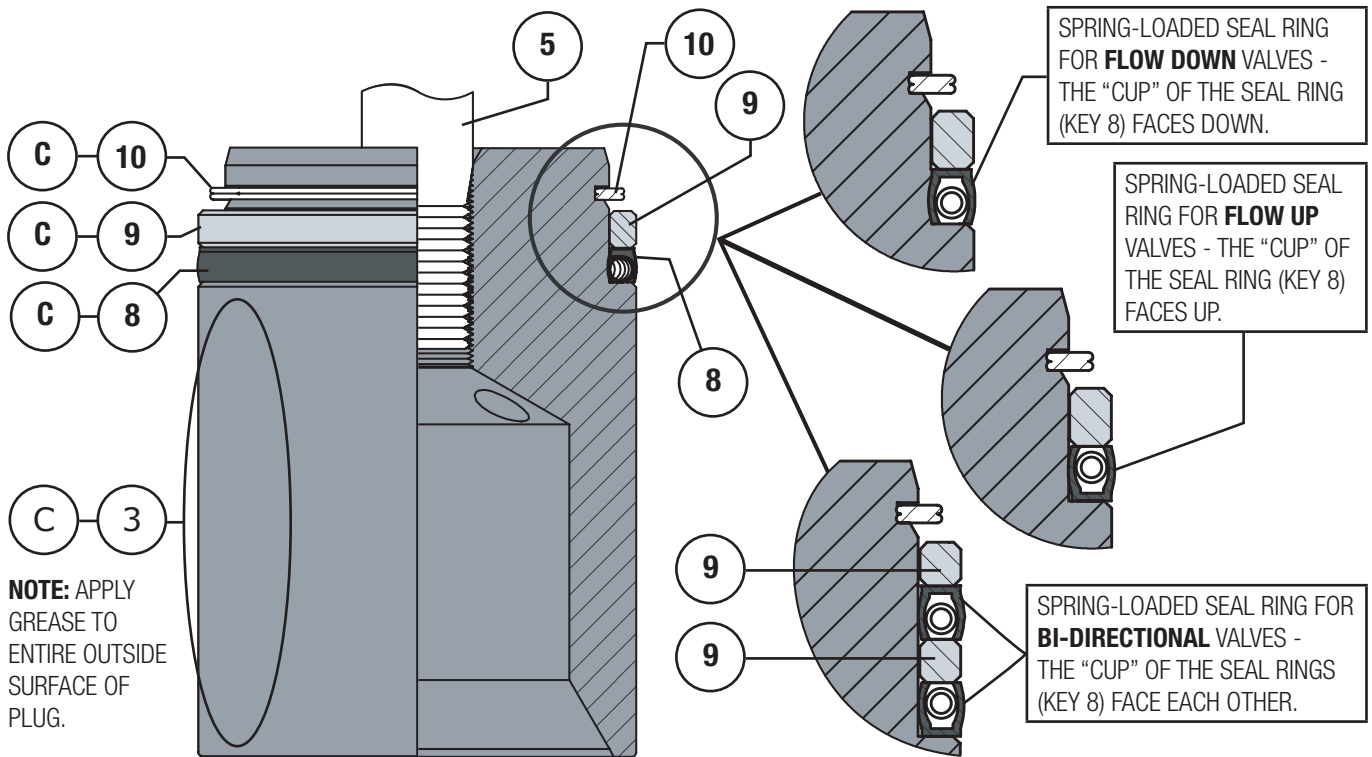

Figure 19 Model 360 Three-Piece Plug Seal Assembly
- 1 Apply Lubriplate® No. 105 (Key C) to the surface of the seal ring (Key 8) and carefully slide it over the top of the valve plug (Key 3) and into the groove as shown in Figure 19. Make sure the seal ring is in the proper orientation. **NOTE:** It is important to allow time for the seal ring to shrink back to its original size after it has been installed before installing the plug/stem assembly in to the valve.
- 2 Apply Lubriplate® No. 105 (Key C) to the surface of the backup ring (Key 9) and carefully slide it over the top of the valve plug (Key 3) and into the groove as shown in Figure 19.